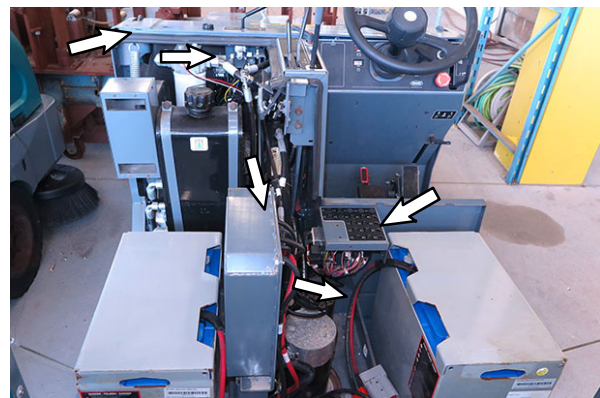

FIG. 11
24. **Battery Machines Only:** Route the blue spotlight harness (6) along the main wire harness connected to the filter shaker switch, down along the main wire harness/hydraulic hoses, and to the circuit breaker panel. (Fig. 11)